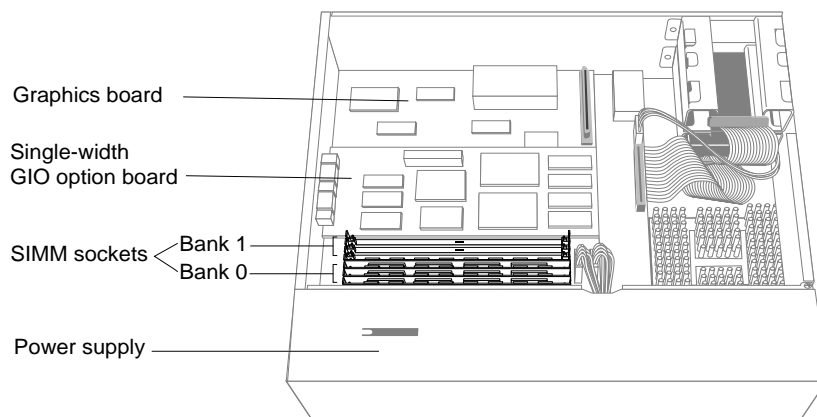

Figure 8-24 Locating the Memory SIMMs
5. Move the system or position yourself so that you are facing the power supply, as shown in Figure 8-24.